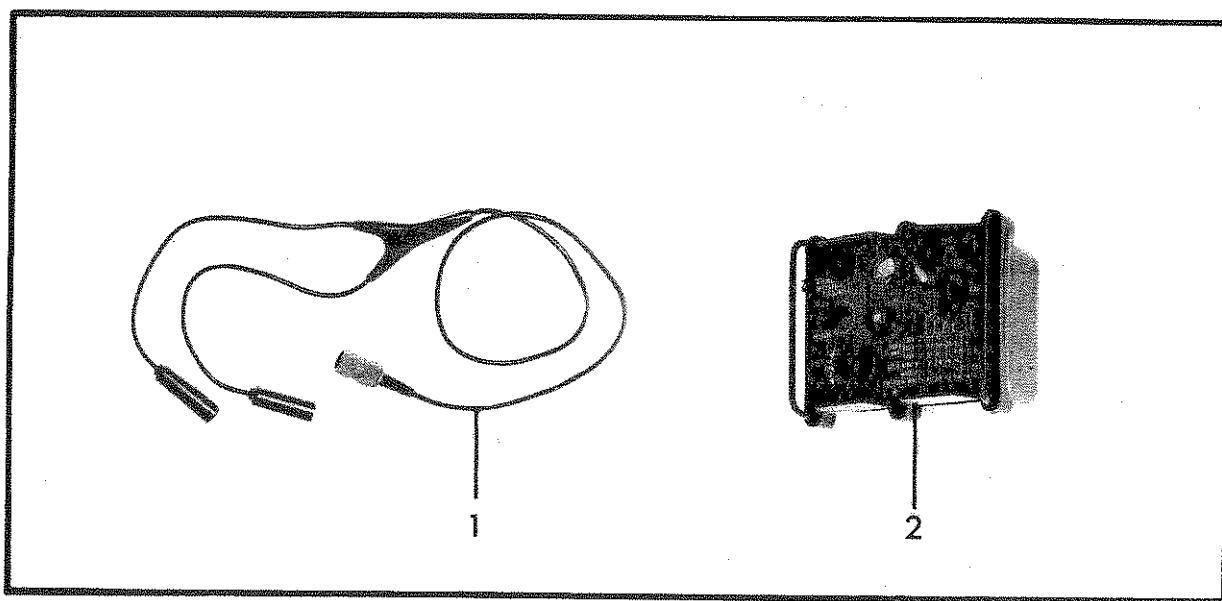

FIG 19
36. Cable Assembly, Special Purpose, Electrical Branched, CX-F15. (Fig 19, Item 1). This assembly enables the operator to connect to the receiver transmitter the Key Telegraph, KY-116/U, the Headset, H-233/PRC and one other audio accessory eg, Handset, H-F2 or Microphone Dynamic, M-F1. The assembly is approximately 1.4 m long. It is fitted with a five pin connector at one end and a jack at each of the branched ends. Plugs attached to the Key Telegraph, KY-116/U and the Headset, H-233/PRC are inserted into the jacks and the five pin connector to one of the audio connectors of the receiver transmitter.
38. Coupler, Antenna, CU-F2. (Fig 19, Item 2). The coupler is a lightweight unit housed in a case of cast aluminium, pancrimatically sealed by means of a synthetic rubber seal between the front panel and the main body which are secured together with six captive screws. The coupler is used to match the 50 Ohms output of the transmitter to the impedance of the various antennae supplied. Correct matching enables the best use to be made of transmitter power output and receiver sensitivity.